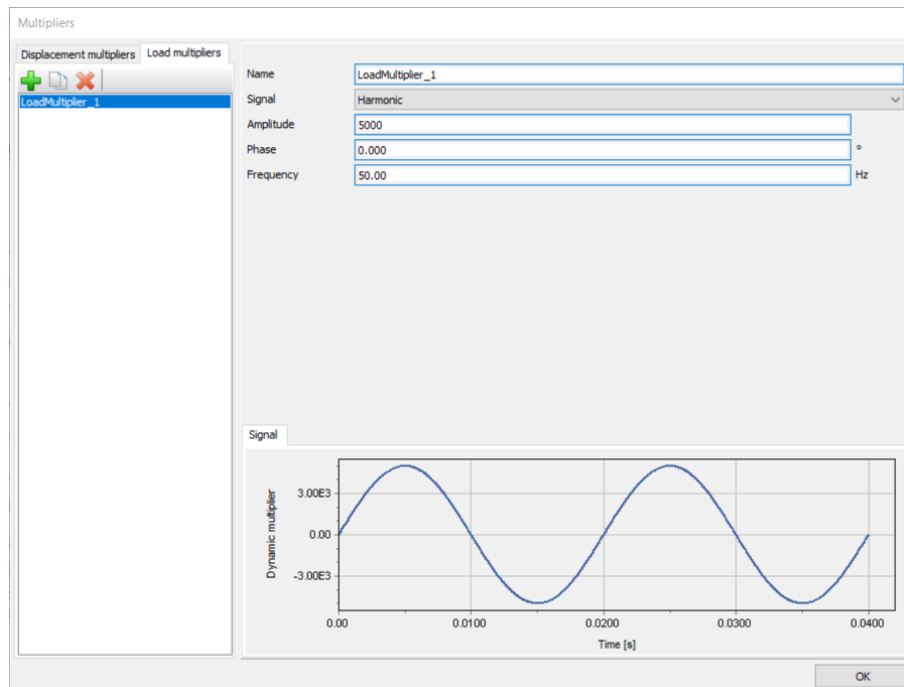

Figure 16–3: Definition of an Harmonic multiplier
- 5 Define a **Harmonic** signal with an **Amplitude** of 5000, a **Phase** of 0° and a **Frequency** of 50 Hz and as shown in Figure 16–3 \(p. 248\). During the pile driving phase, we will only consider half a cycle (0.01 s) of this signal.
The final geometry model is shown in Figure 16–4 \(p. 249\):